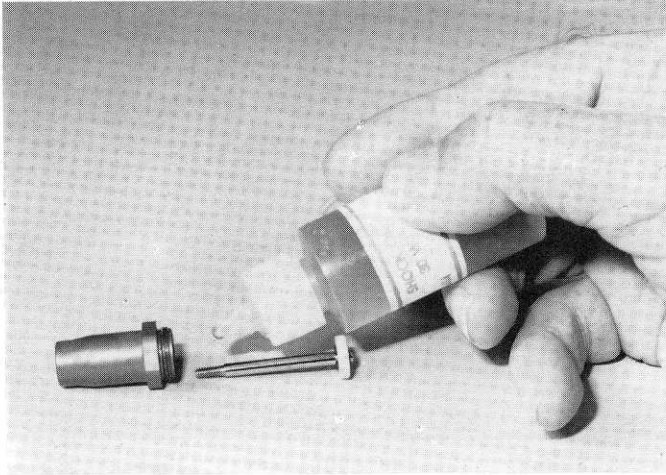

Fig. 116
- **Fig. 116** After the split washer is fully seated, place a liberal amount of oil on the short shock shaft and slowly push it into the shock, and pull it all the way to the bottom.